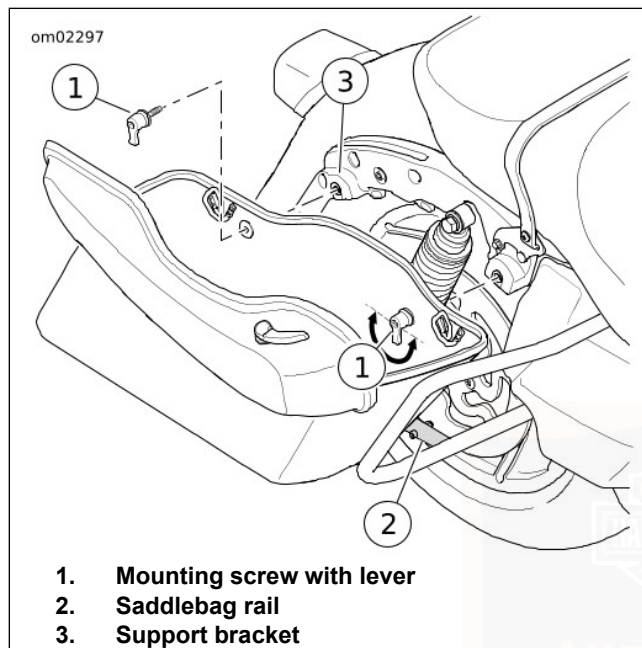

Figure 56. Saddlebag Removal/Installation
2. See Figure 56. Turn the mounting screw levers counterclockwise to remove the mounting screws from the support bracket.
1. See Figure 56. Carefully place saddlebag in position on saddlebag rail. Align the mounting grommets with the support bracket.